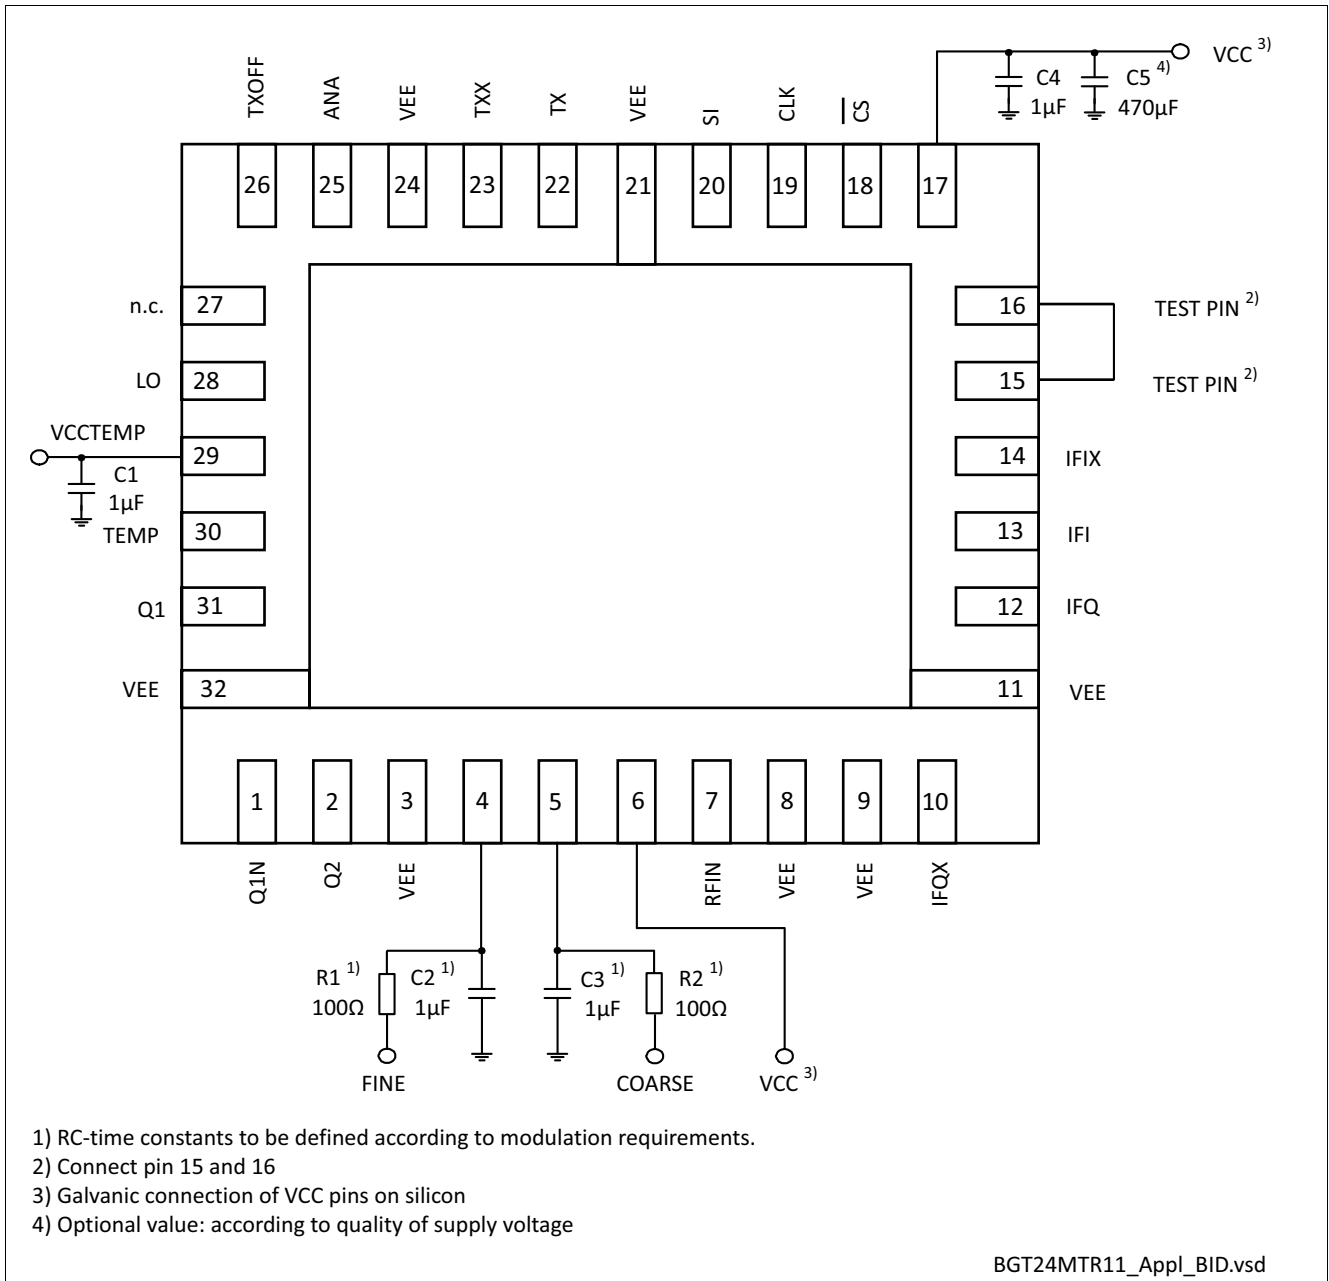

Figure 2 Application Circuit with Chip Outline (Top View)
- 1) Performance based on Application Circuit Figure 2 on Page 15, Cross Section of Application Board, Compensation Structures and Application Board Layout Figure 4 on Page 20ff and Footprint Figure 8 on Page 23